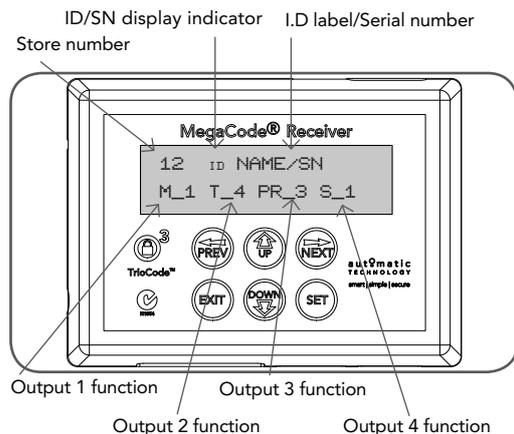

fig 3
The MegaCode® receiver can store up to five hundred and eleven (511) transmitters in its memory. Each transmitter can be allocated an alpha-numeric ID label up to eleven (11) characters in length and each button can be assigned to any channel. The settings for a transmitter are represented in (**Fig. 3**). It shows the transmitter's store number, ID label or serial number and the functions assigned to each of its four buttons. To toggle between ID/SN display, press UP/DOWN with the cursor on the ID/SN indicator.